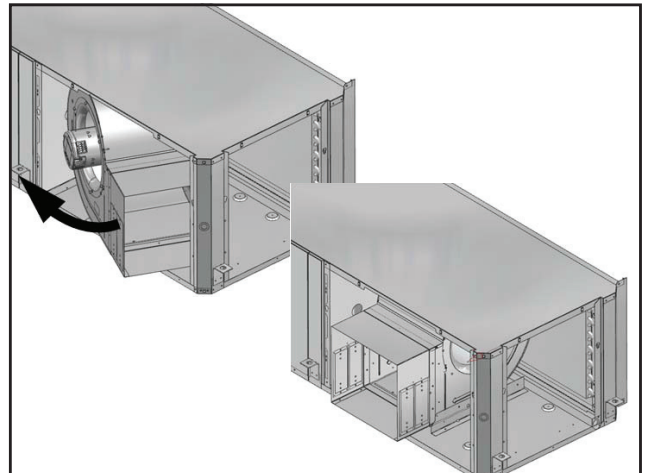

Fig. 32 - Rotate Blower Into New Position
6. Rotate the blower into its new position. See Fig. 32.